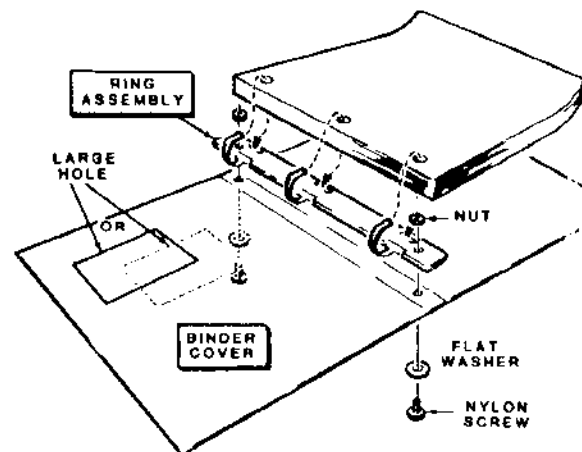

Figure 1
- () Refer to Figure 1, locate the envelope marked "Binder Hdw", and remove the hardware.